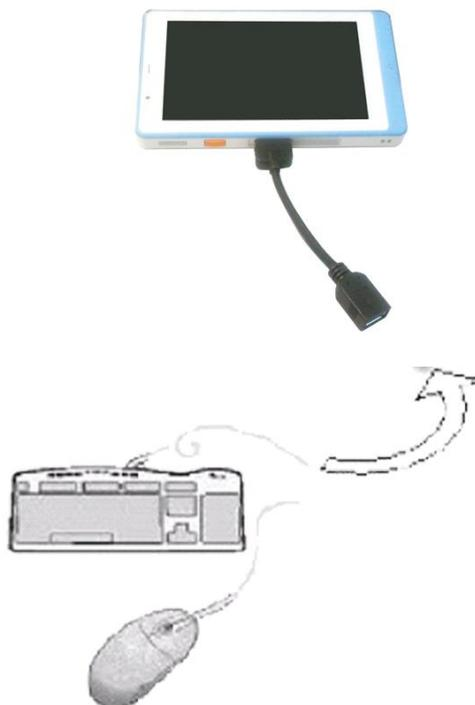

Figure 2.16 Connecting the Keyboard or Mouse
1. Connect the USB mouse and keyboard and docking port of MICA with USB docking cable (See Figure 2.16.). The USB transfer cable is bundled in the accessory box. A USB hub is needed for additional USB devices.